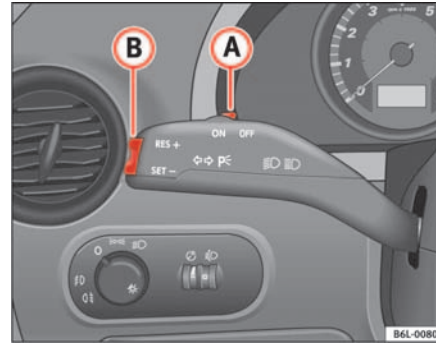

Fig. 106 Turn signal and main beam lever: switch and rocker switch for CCS
- Press the lower part **SET** of the rocker switch ⇒ fig. 106 (B) once briefly when you have reached the speed you wish to set.